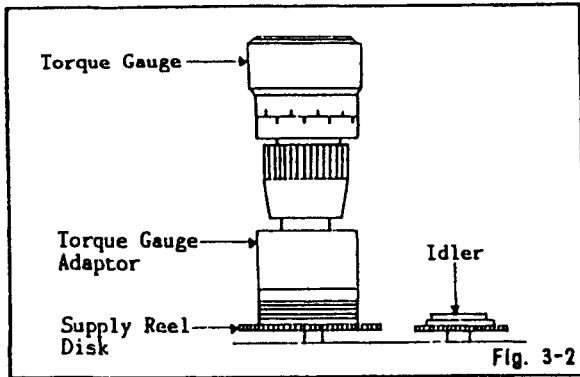

Fig. 3-2
2. Set torque gauge (JG002G) on supply reel Disk, and place the unit in REWIND mode. (Refer to Fig. 3-2)